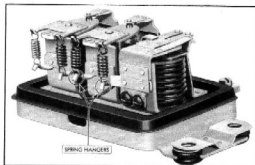

Fig. 27—Current Regulator Lower Spring Hanger
1. Current setting of the regulator is adjusted by bending the spiral spring hanger down to increase the current setting, or bending up on the spring hanger to decrease spring tension and lower current setting, Fig. 27. Normally,